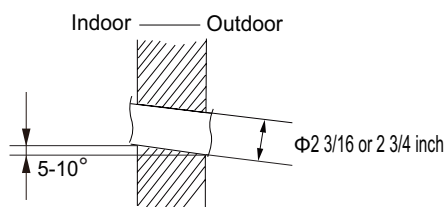

Fig.2
(2) Open a piping hole with the diameter of 2 3/16 or 2 3/4 inch on the selected outlet pipe position. In order to drain smoothly, slant the piping hole on the wall slightly downward to the outdoor side with the gradient of 5-10°. (As show in Fig.2)